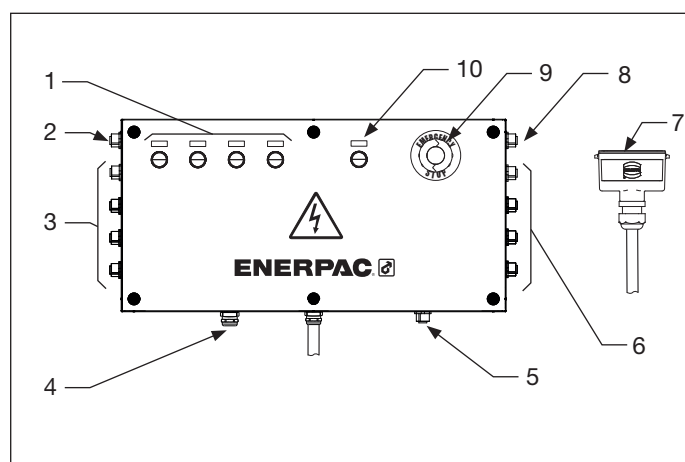

Figure 3, Major Components SFPKSS8
The Figure 3 shows the major components of SFPKSS8. Note the SFPKSS4 is a similar layout but with less connections for the stroke sensors and pressure transducers (numbers 3 & 6 in the Figure 3).
3. Push and hold during 5 seconds the Set Up Ok button on the SFPKSS4 or SFPKSS8 Sensor Junction Box. Refer to Figure 3, button number 10. The light will begin to flash rapidly and then stop and remain solid once the IP address is properly assigned.
Connect the SFP COMM-25 cable to the SFPKSS4 or SFPKSS8 communication plug. Use the connector number 5 according to the Figure 3.